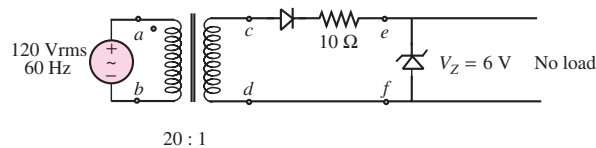

Figure P12.19
12.19 A power supply is shown in Figure P12.19. Sketch the signals V_{ab} , V_{cd} , V_{ef} , and I_Z .